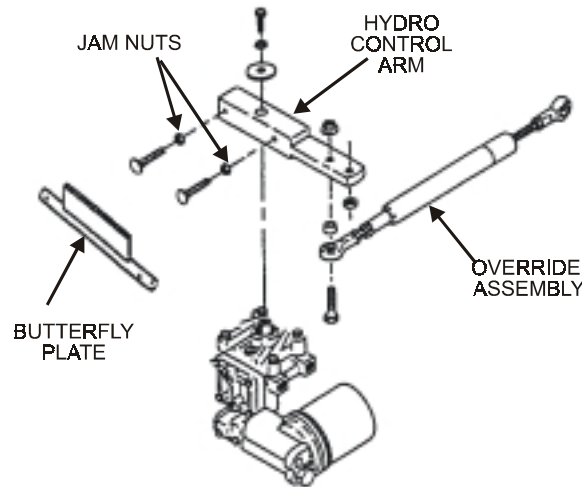

FIG. 9
- d) Adjust two 5/16 x 1-1/2" carriage bolts in the hydro control arm in or out until the head contacts the butterfly plate, and then tighten jam nuts (See Figure 9).